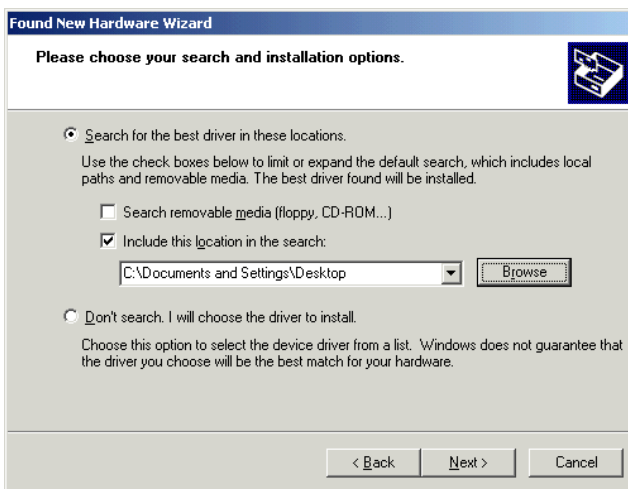

Figure 5: File Location Selection Window
11. Select **Install from a list or specific location (Advanced)** as shown in Figure 5.